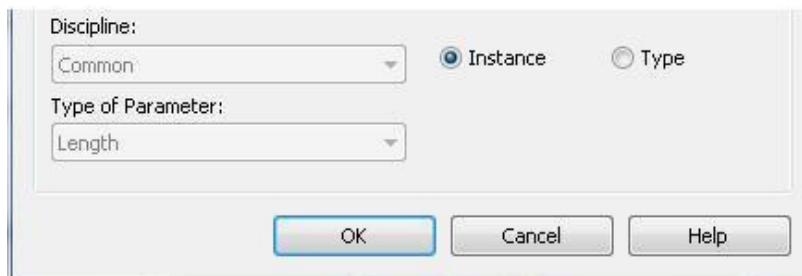

Figure 24. Creating the “Lintel and Sill Thickness” parameter.
31. Click the Types tool from the Create ribbon. In the Family Types dialog box, click Add. Provide a name of “Lintel and Sill Thickness”, group the parameter under Other, make it Instance-based and make it a Length parameter as shown in Figure 24.